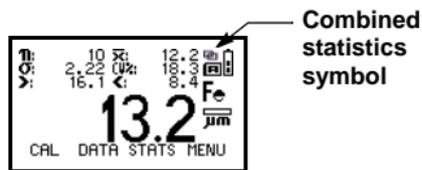

Figure 39. Reading screen with all statistics
j. When readings are combined a  symbol will be displayed on the Reading Screen (Figure 39).